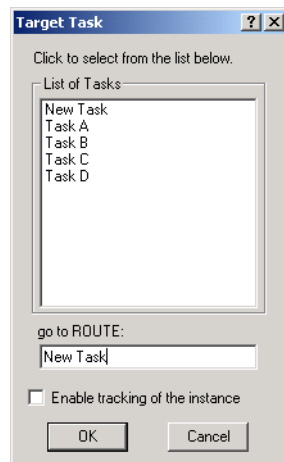

Figure 31-4. Target task dialog with new task.
- ❶ To add a new route, double-click a task. The Task Configuration dialog appears. Click the **Closing Script** tab (this function only works in the Closing Script tab).
- ❷ Right-click on the Begin statement and select **ROUTE**, from the **Insert** drop-down menu. The Target Task dialog appears. Type the name of the task you want to add a route. Or, double-click on a task name from the list of tasks (see Figure 31-4, below).